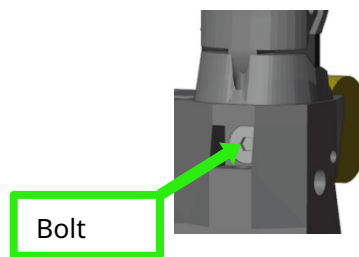

Figure 5.15: Finger bolt insertion
4. Insert the bolt into the hole on the back of the skeleton and screw it in (figure 5.15)